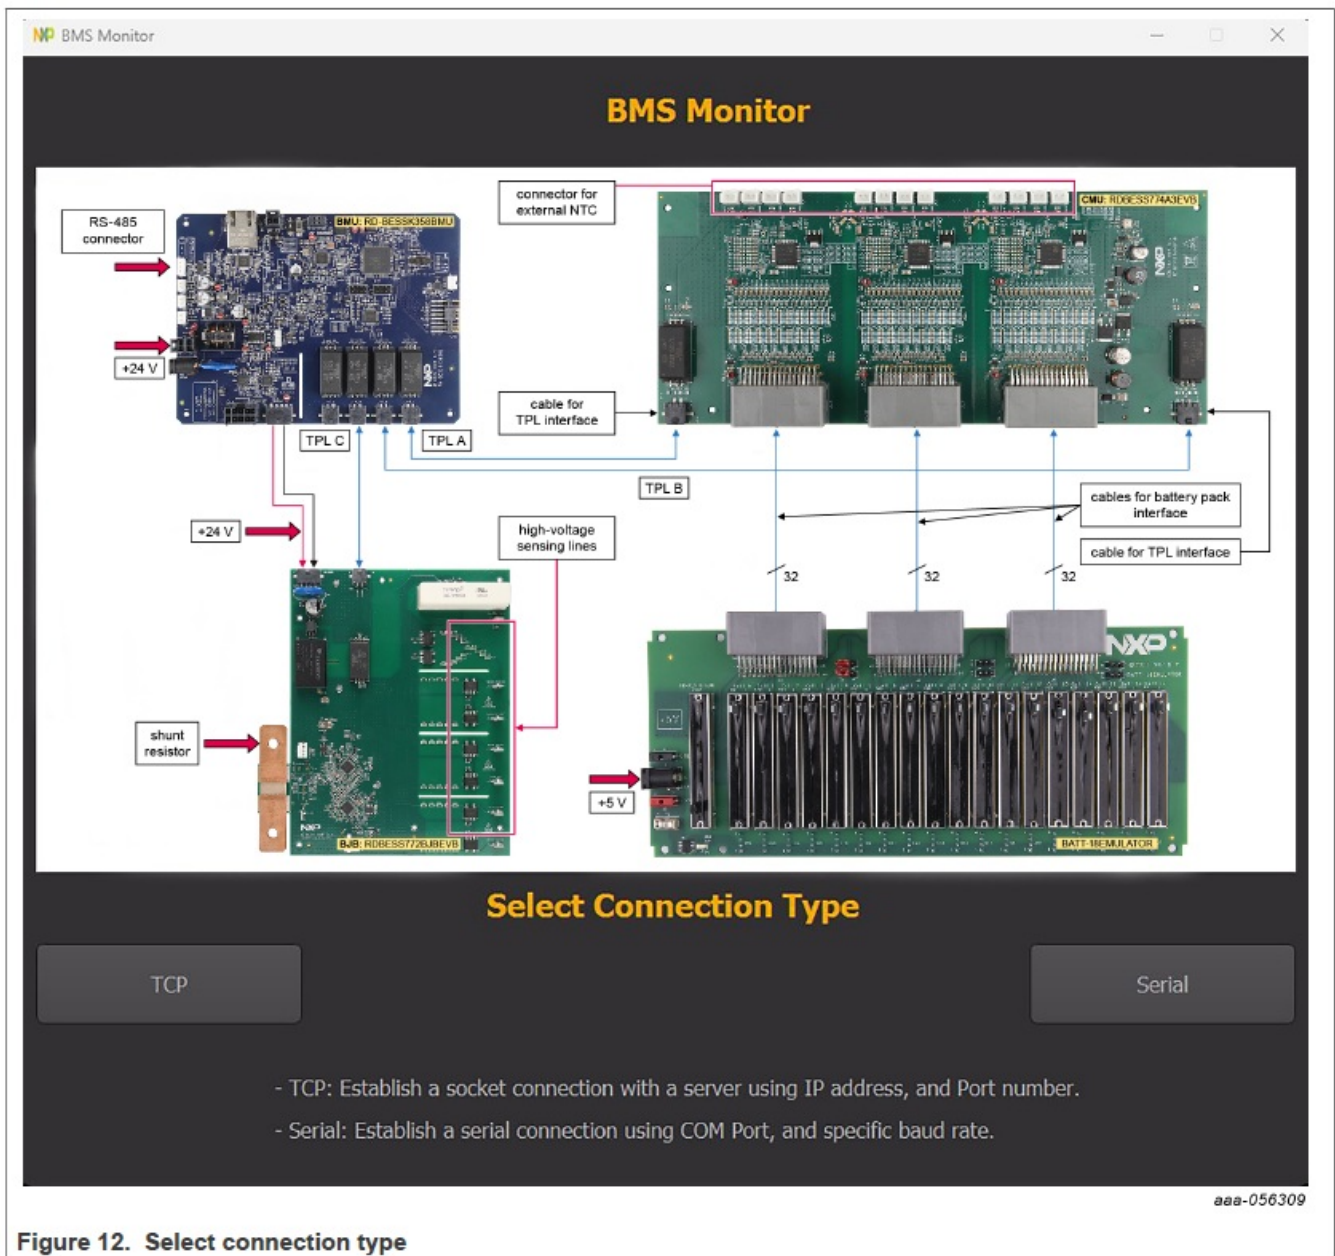

Figure 12. Select connection type
- Back to the desktop application, after opening the app, you see the image as shown in Figure 12.